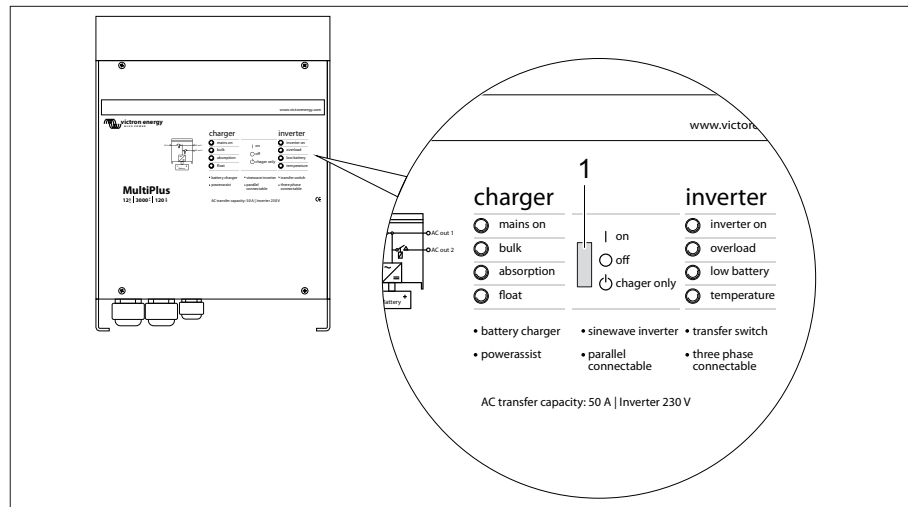

Fig. 238 AC converter MultiPlus
For proper functioning of the Digital Multi Control Panel the flip switch at the AC converter MultiPlus (Fig. 238,1) has to be set to "on".
Positions of the flip switch (Fig. 238,1)
- ▷ If no 230 V connection is active and the vehicle is not being used for a long period, the flip switch (Fig. 238, 1) has to be set to "off". Otherwise it is possible that the batteries are empty are 3–4 days at the latest.